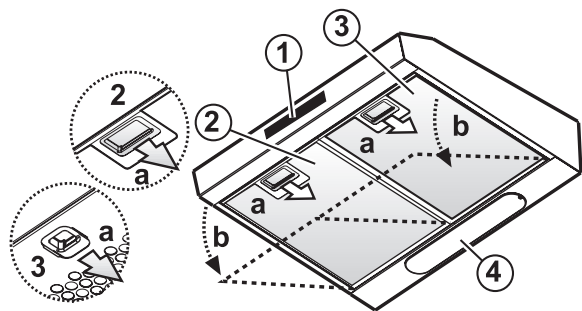

Fig. 1
2. Open the extractor grille or remove the self-supporting grease filter (depending on the model). **Fig. 1 (a-b).**
2. Open the extraction grille or remove the self-supporting grease filter (in the latter case, wash the filter immediately). **Fig. 1 (a-b).**